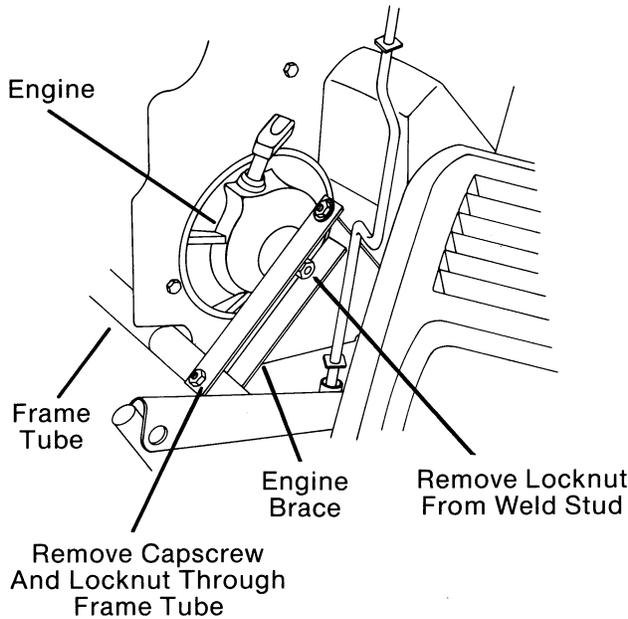

FIG. 14
- N. Remove locknut from weld stud through center of engine brace. (Fig. 14) Remove bottom capscrew and locknut through engine brace and frame tube. (Fig. 14) Pull engine brace away from around frame tube and pivot away from engine.